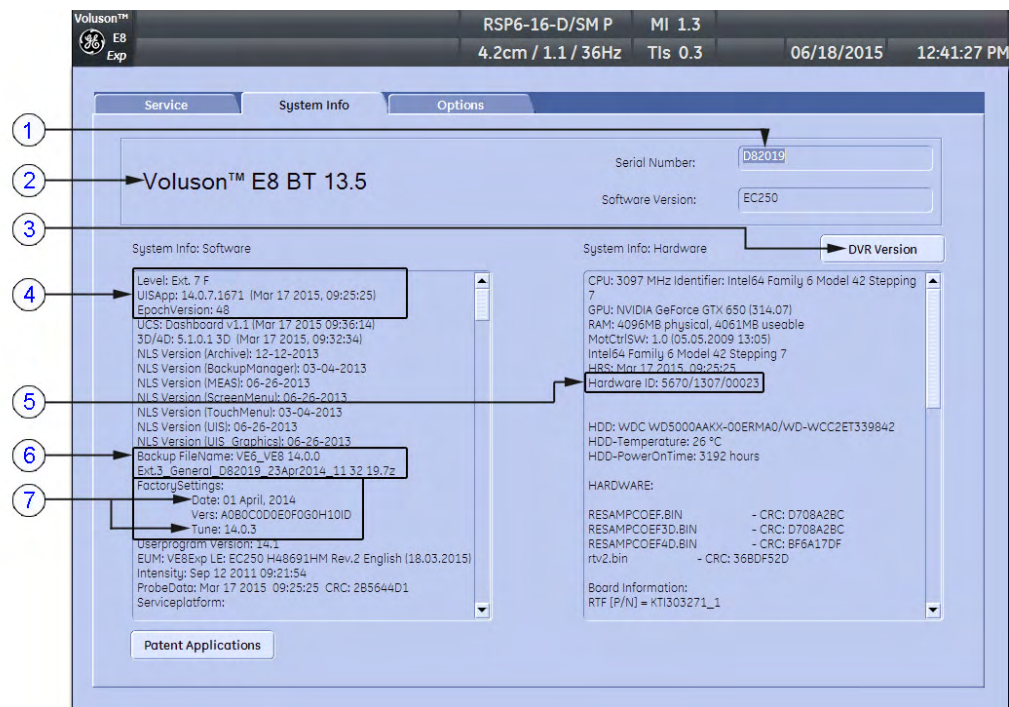

Figure 7-1 System Setup - Administration - SYSTEM INFO page
**Note** *All the above information can be found in the “System Info” page; see: Figure 7-1 on page 7-3.*